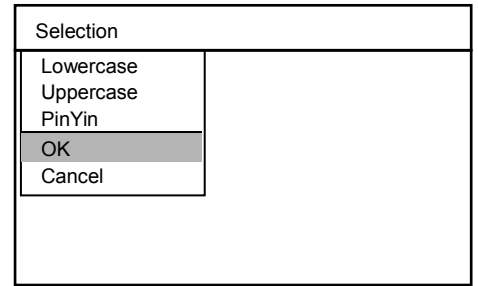

Fig.5-19 Selection
8. After finishing edit, press **OK** key → press the direction keys to select “OK” → press **OK** key to save and return or to select “Cancel” → press **OK** key to cancel and return. (as shown in Fig.5-19)